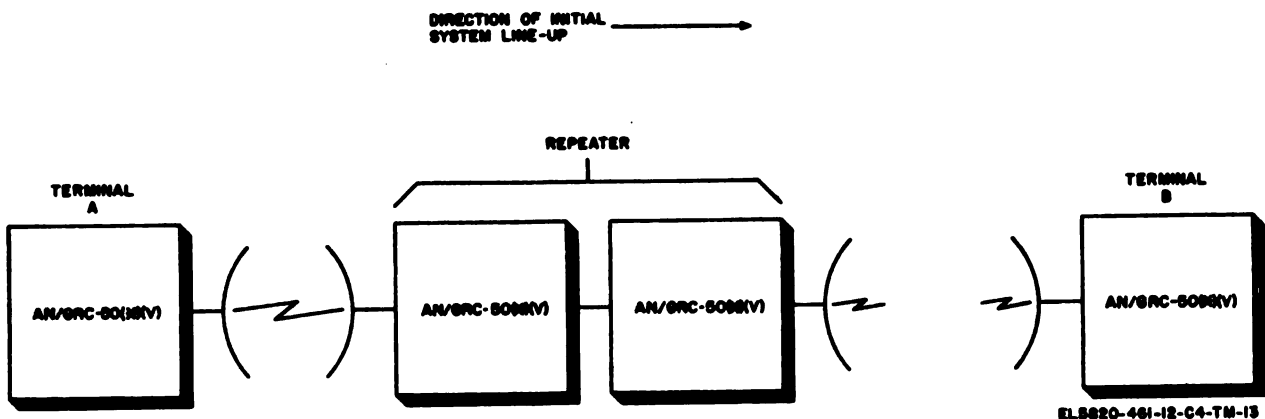

Figure 3-10. System lineup.
b. *General Lineup Procedures.* One terminal in the system is designated as the control station; this station will be designated terminal A, and the other terminal as terminal B (fig. 3-10). The lineup procedures will be performed between terminal A and the next station in the line. When the procedures are completed between these two stations, the operator at terminal A will inform the operator at the next station to begin lineup procedures with the station next to it in the A-to-B direction. The lineup procedures are continued until all stations in A-to-B direction of the system have performed system lineup procedures. Terminal B then assumes temporary control of the system, and the lineup procedures are performed in the B-to-A direction. The system is ready for normal operation after completion of the lineup procedures in B-to-A direction.